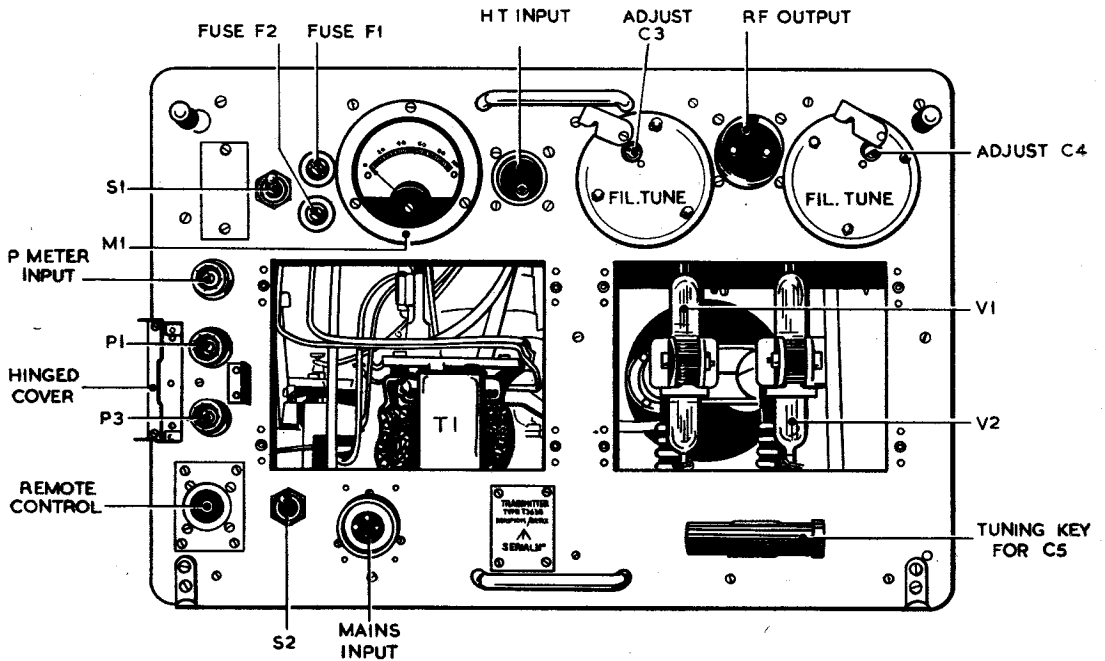
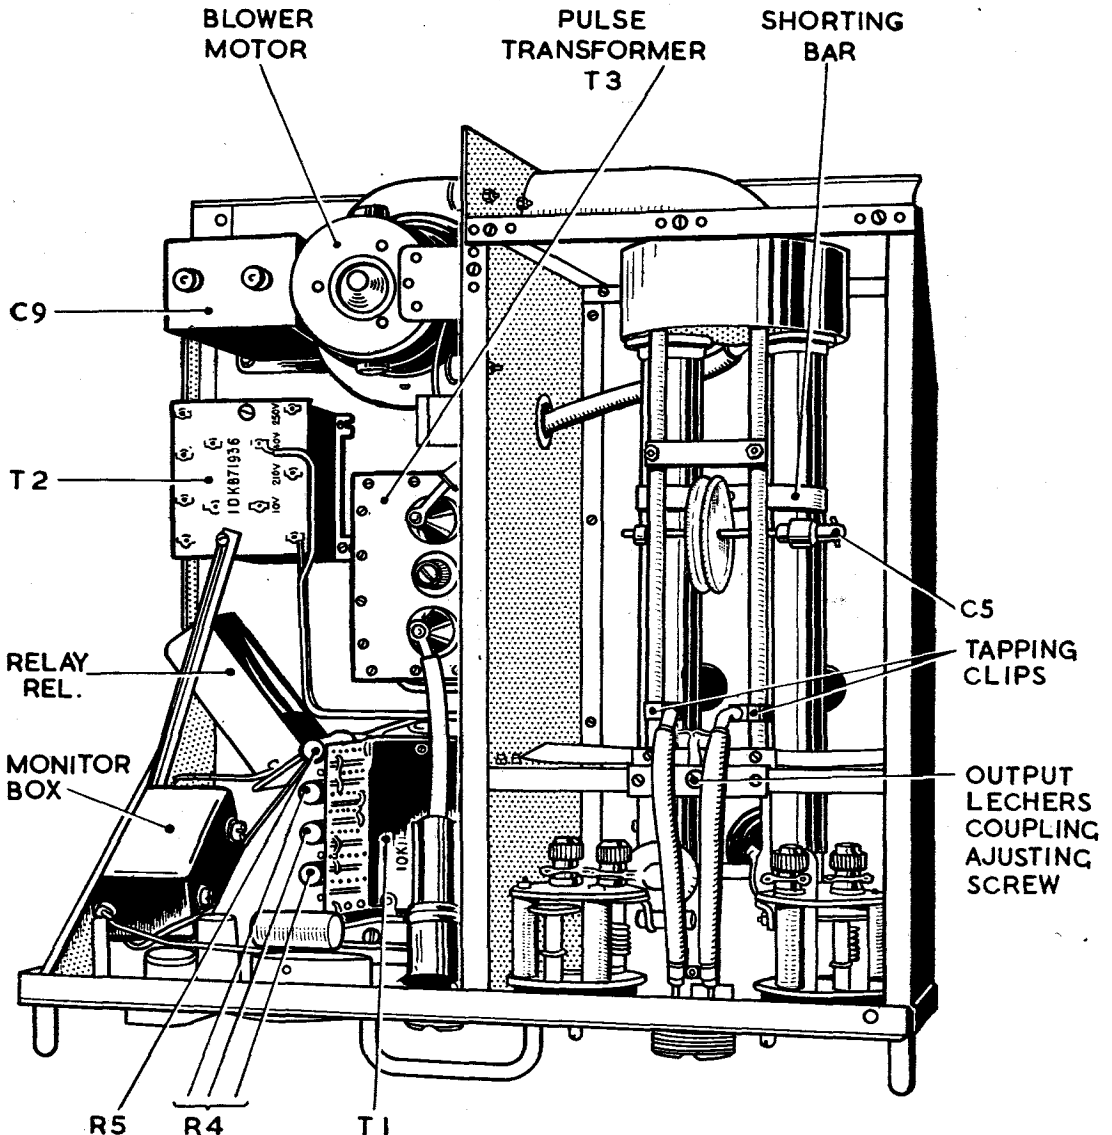

Fig. 15. Transmitter Type T.3638 : front panel
Fig. 16. Transmitter Type T.3638 : interior
Preliminary adjustment (fig. 16)
- (1) Verify that the mains input leads are connected to the 0 and 230V tags on transformer T2 at the centre left of the chassis (*fig. 16*).
- (2) Check that the pulse transformer T3 (centre right of the chassis) is out of circuit, and that the HT input is taken to a stand-off insulator on the side of the oscillator compartment.
- (3) Remove the screws securing the lid of the oscillator compartment and slide the anode lechers shorting bar about half way along the lechers.
- (4) Adjust the spacing between the plates of the output lechers tuning condenser (C5) to be about $\frac{3}{8}$ in. to $\frac{1}{2}$ in.
- (5) Insert a screwdriver through one of the holes marked FIL TUNE on the front panel (*fig. 15*); turn the control fully counter-clockwise and then back $1\frac{1}{2}$ turns; do the same with the other control.
- (6) Set the tapping clips on the output lechers (*fig. 16*) so that the edges of the clips nearer the valves are $\frac{3}{8}$ in. from the output lechers shorting bar.
- (7) Set the output lechers coupling screw (*fig. 16*) about halfway; i.e., about three turns from either extreme.
- (8) Replace the transmitter on the runners without its dust cover. Reconnect the mains and aerial leads.
56. Turn the MAINS switch to its ON position (*fig. 15*); the blower motor should then be heard and the oscillator valve filaments should light. Now proceed as follows:—
C4 and C5 (*fig. 15 and 16*) to give a substantially square pulse envelope of maximum amplitude. The pulse width should be about 2 microseconds; it can be checked with the calibration facilities offered by monitor Type 33.